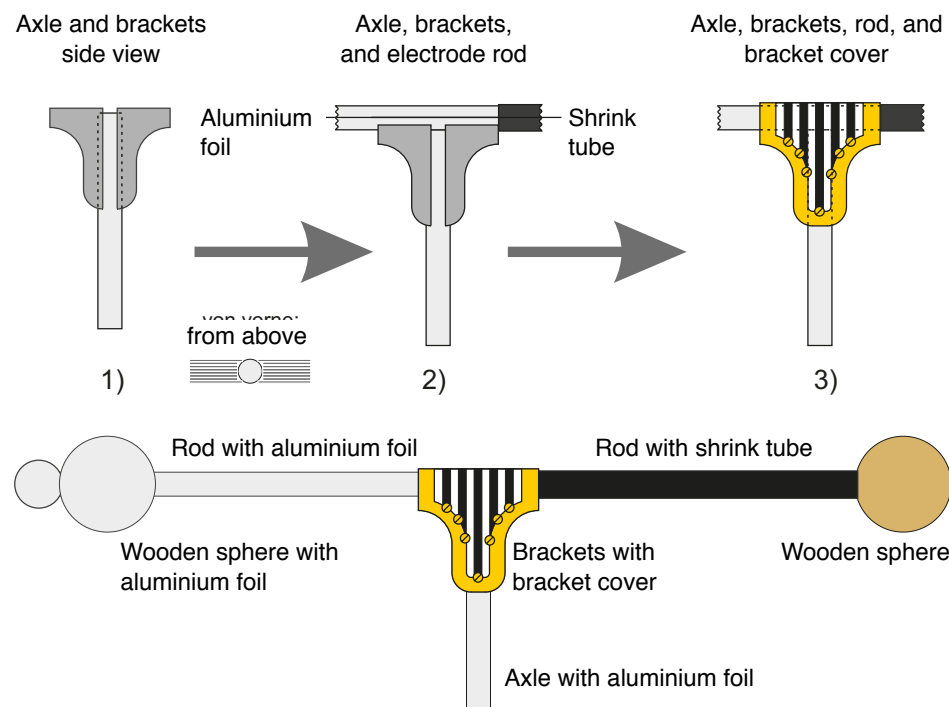

Fig 10: Spherical electrode
Glue the slightly larger pieces [Q11 and Q12, Sheet 7] on top and underneath the block, so that the curved sides are flush with the curved side of the block. The two straight edges then protrude by about 1mm. The resulting channels will house the wooden rods (see Fig 10).
Step 108: Place the two blocks next to each other on your worktop with the axle in between (see Fig 10). The axle then is housed in the longer channels of the brackets. The aluminium covered end of the axle needs to be flush with the channels of the shorter edges, to ensure proper electrical contact with the long rod